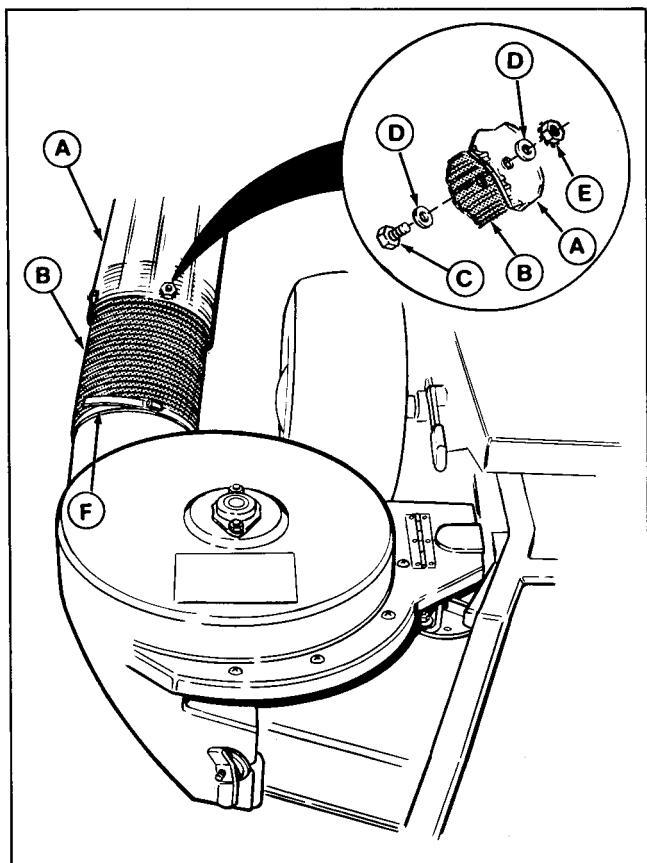

Figure 30.
5. Install clear tube (A, figure 30) onto flexible hose (B) until combined length is 45". When length is correct, perforate hose at four tube hole locations.
6. Install washers (D) onto 10-32 x 1/2 screws (C) and insert through hose and tube from inside out. Install washer (D) and nut/lockwashers (E) combination and tighten snug.
7. Install tube and hose assembly to turbo-vac housing and secure with band (F).